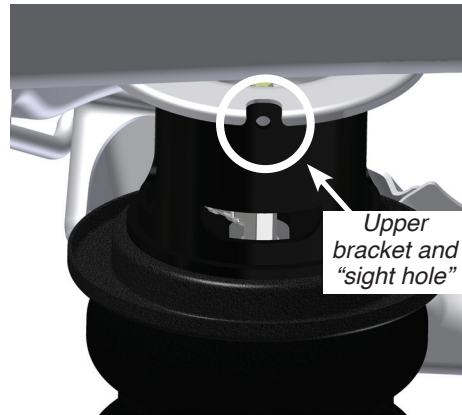

fig. 15
6. Center the assembly over the upper spring perch, with the upper bracket "sight hole" aligned with the notch in the upper spring seat (fig. 15). Thread the upper bracket bolt into the nut plate, torque to 27 Nm (20 ft-lbs.)